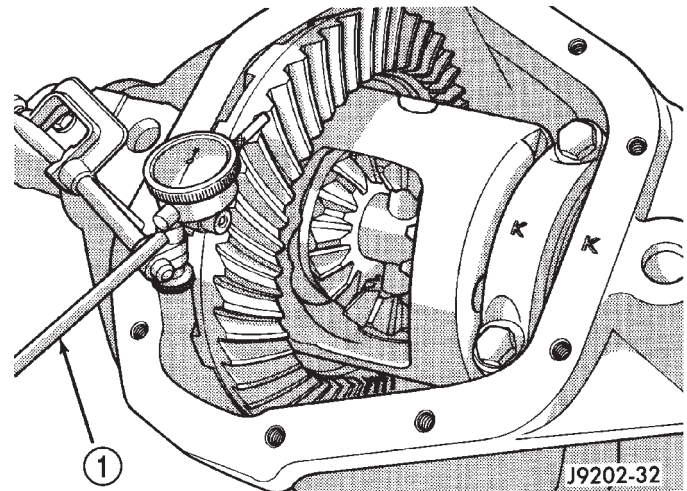
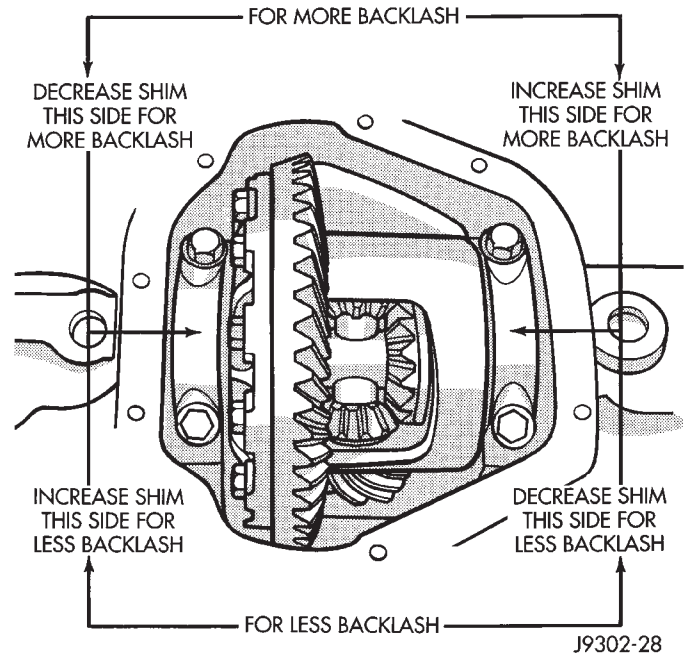

Fig. 103 Ring Gear Backlash Measurement
Fig. 104 Backlash Shim Adjustment
(25) Subtract 0.002 in. (0.05 mm) from the dial indicator reading to compensate for backlash between ring and pinion gears. This total is the thickness shim required to achieve proper backlash.
(26) Subtract the backlash shim thickness from the total preload shim thickness. The remainder is the shim thickness required on the pinion side of the axle housing.
(27) Rotate dial indicator out of the way on guide stud.
(28) Remove differential case and dummy bearings from axle housing.
(29) Install side bearing shims on differential case hubs.
(30) Install side bearings and cups on differential case.
(31) Install spreader W-129-B, utilizing some items from Adapter Set 6987, on axle housing and spread axle opening enough to receive differential case.
(32) Install differential case in axle housing.
(33) Remove spreader from axle housing.
(34) Rotate the differential case several times to seat the side bearings.
(35) Position the indicator plunger against a ring gear tooth (Fig. 103).
(36) Push and hold ring gear upward while not allowing the pinion gear to rotate.
(37) Zero dial indicator face to pointer.
(38) Push and hold ring gear downward while not allowing the pinion gear to rotate. Dial indicator reading should be between 0.12 mm (0.005 in.) and 0.20 mm (0.008 in.). If backlash is not within specifications transfer the necessary amount of shim thickness from one side of the axle housing to the other (Fig. 104).
(39) Verify differential case and ring gear runout by measuring ring to pinion gear backlash at eight locations around the ring gear. Readings should not vary more than 0.05 mm (0.002 in.). If readings vary more than specified, the ring gear or the differential case is defective.